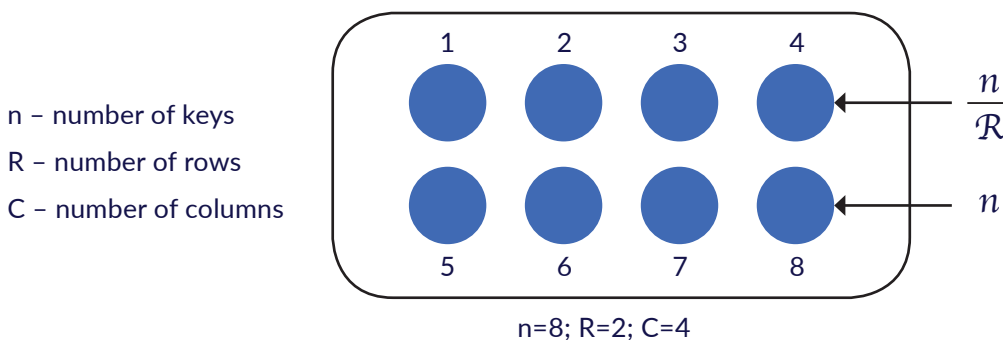

Figure 1: Switch Numbers
The Panel illumination is updated upon receiving PGN 127501 (Binary Status Report). Each key is identified by its position in rows (R) and columns (C) (see figure 1 below). Example: For 8 keys, R = 2, C = 4.